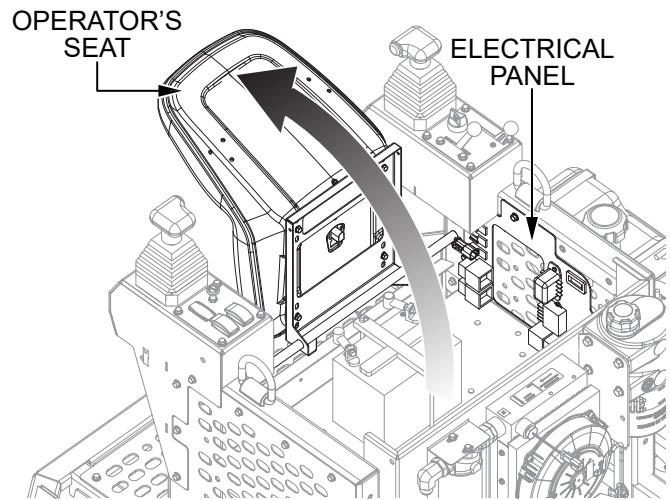

Figure 4. Access Electrical Panel
1. Tilt the operator's seat forward to access the electrical panel (Figure 4).